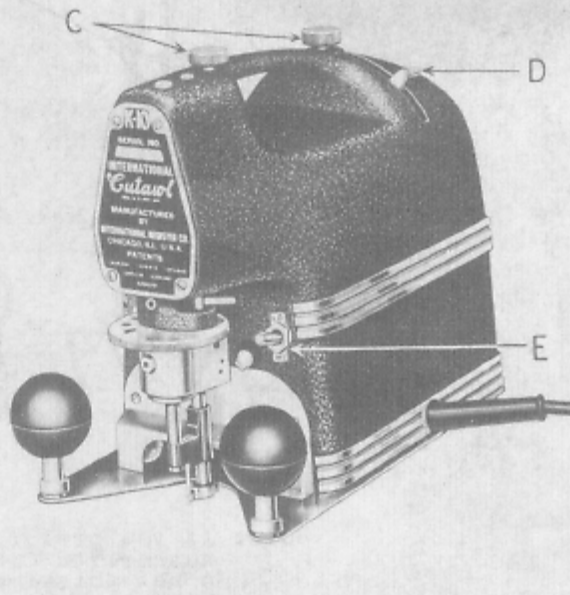

Figure 9
To adjust the clearance, turn the large driving wheel until the chisel is in its uppermost position. Loosen the two knurled knobs (C) Figure 9 and, using lever D, turn the shaft until proper clearance is obtained. Then tighten knobs C securely.
Pulley speeds are changed by reversing the pulley on the motor shaft to use the large (high speed) or small (low speed) diameter. The change of motor speeds is accomplished by pushing the motor switch E (Figure 9) down for "high" speed, and up for "low" speed.